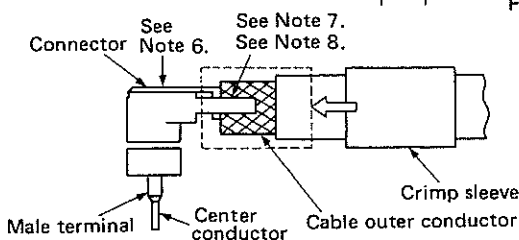

Fig. 5
- (2) Bend the connector lid, as shown in Figure 5. Note 6: Directly press the lid to bend it. Do not hold the connector by the connector shell when bending the connector lid. Note 7: Place the outer conductor in the support bar.
- (3) The clearance between the outer insulation and the end face of the LP shell must be 5.2 mm or less.
- (4) Slide the crimp sleeve further in up to the base of the support bar. (Fig. 5 dotted line section) Note 8: At this time, the support bar must be inside the crimp sleeve.